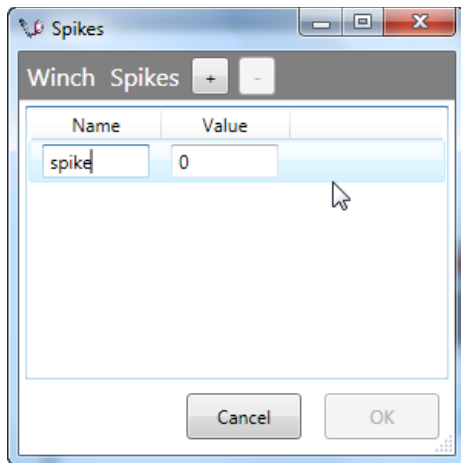

Figure 298
- A new Spike will be added with the generic **Name** of "spike" and a **Value** of "0" (Figure 298).